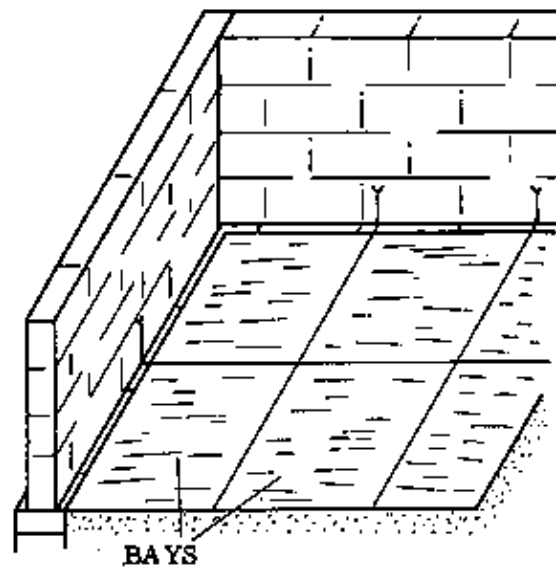
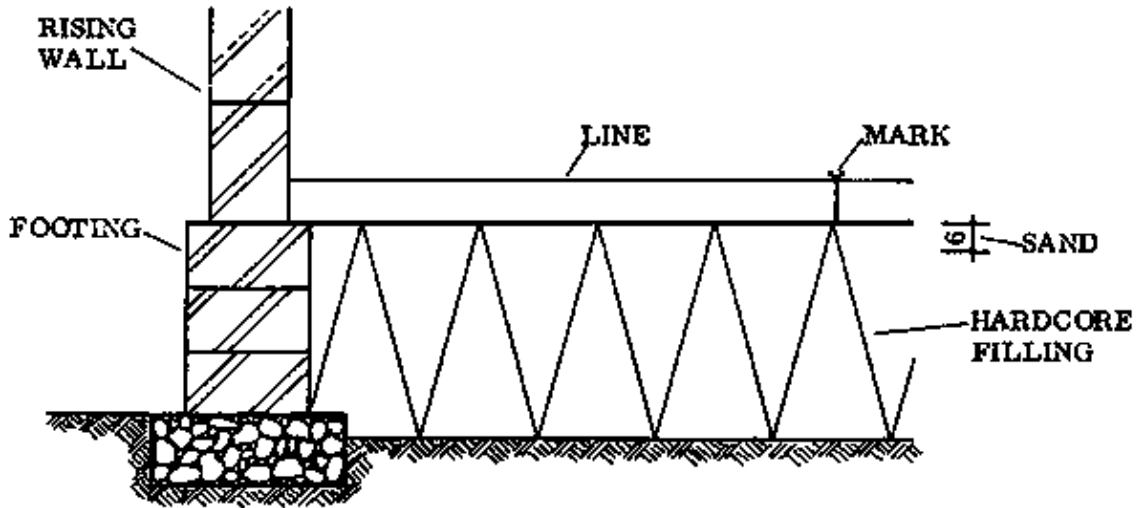

Fig. 2
Fig. 3
- b. Divide the area of the room into bays and mark the bays on the walls (Fig. 2).
- c. Mark the positions of the edge boards on the sand between the marks on the walls (Fig. 2). Lines may also be fixed between the wall marks at the height of the finished floor level (Fig. 3).